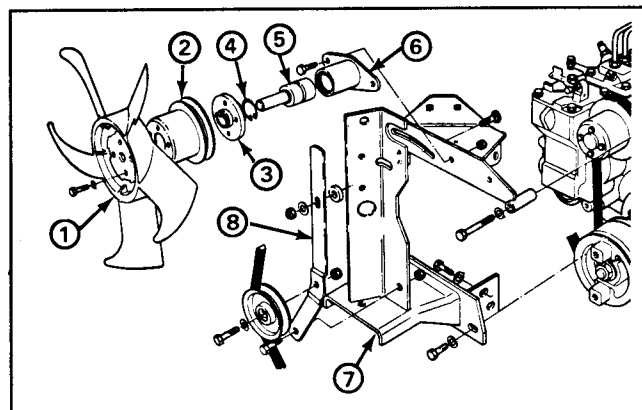

Figure 40
2. Loosen two nuts securing the idler pulley lever to the bracket (Fig. 40). Move the pulley away from the belt.
3. Remove two (2) capscrews, securing the hub to the bracket. Remove the fan hub as assembly (Fig. 40, Items 1 - 6).
4. Remove the four (4) capscrews and lockwashers securing the fan and fan pulley to the fan hub.